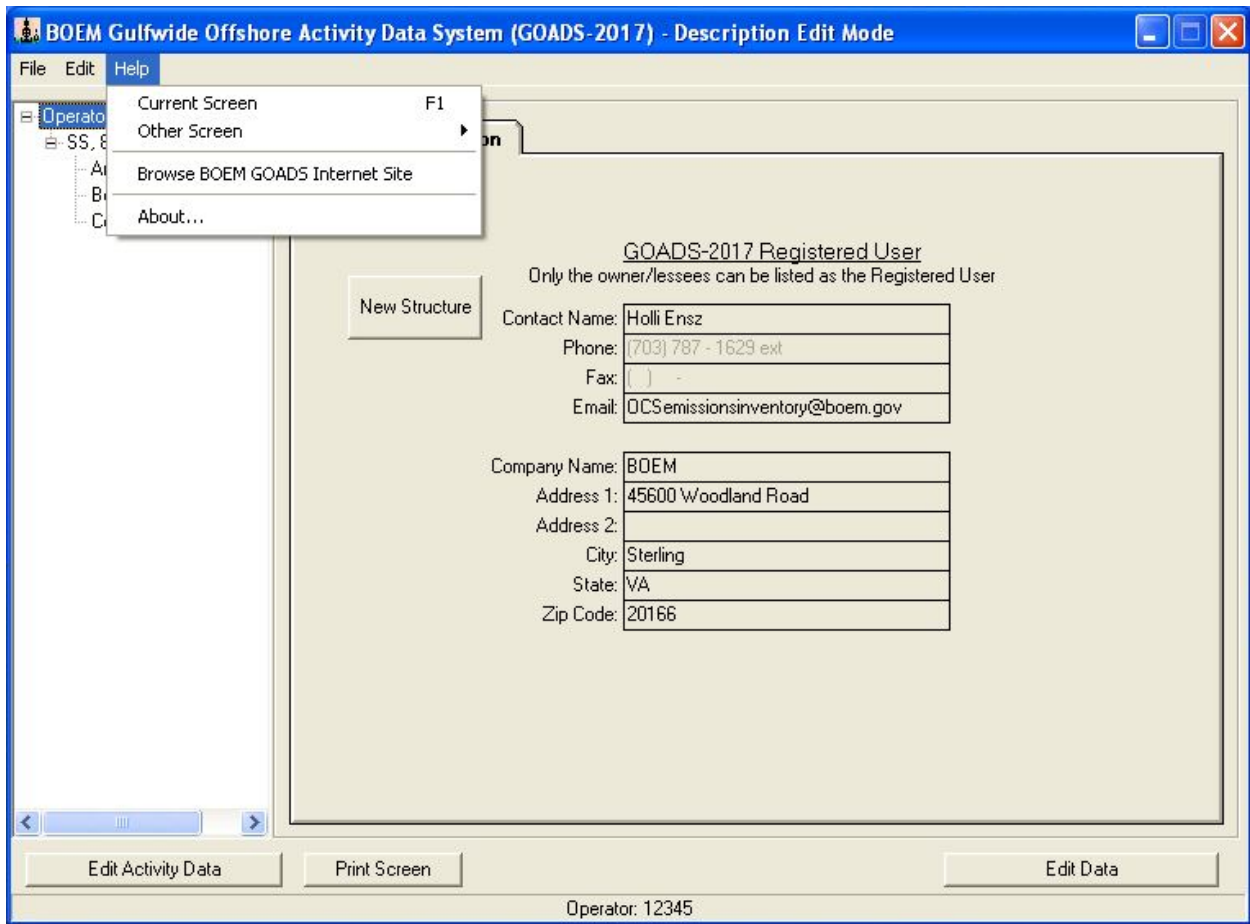

Figure 5. GOADS-2017 help menu.
- Directly access the BOEM GOADS Internet Site with Frequently Asked Questions (FAQs) and this User's Guide (Figure 5).